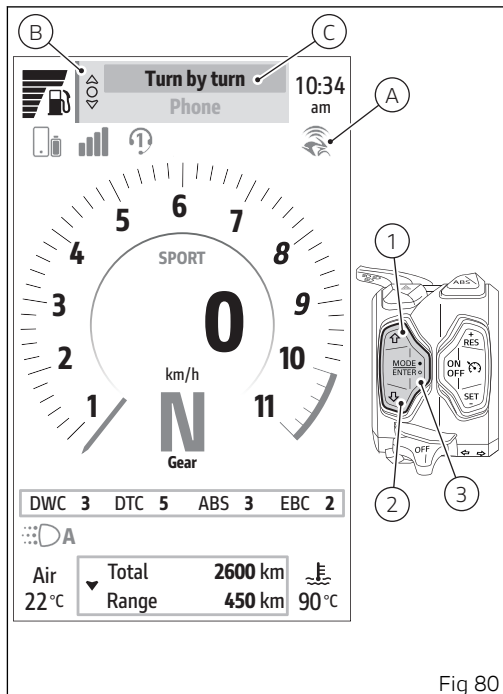

Fig 80
- Select the Interactive Menu (B, Fig 80) by pressing and holding button (1) down for a long time.
- Use buttons (1) and (2) to select item "Turn by turn" (C, Fig 80) and press the ENTER button (3).